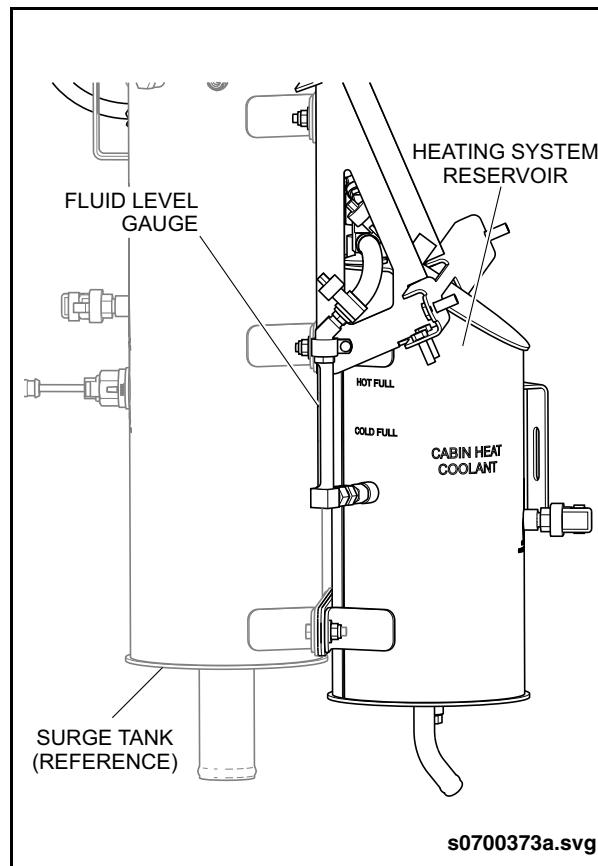

Fig. PM-20: Heating System Reservoir Fill Level
- Top off coolant to the correct level as required using premix antifreeze. Refer to 2.34. "Fluid & Lubrication Guide" on page 114 in this section for antifreeze specification. See "Fig. PM-20: Heating System Reservoir Fill Level" on page 47.